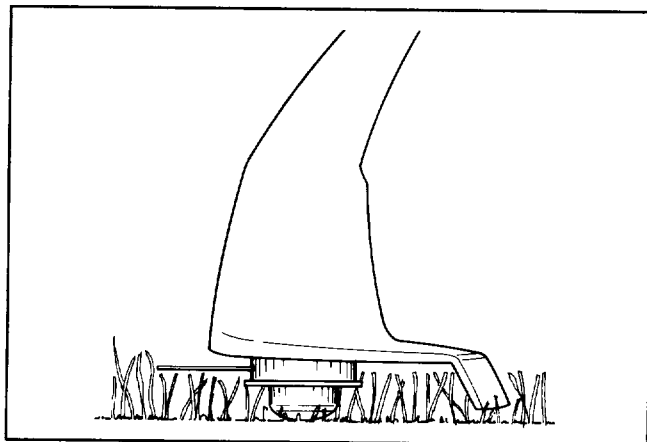

Figure 12
9. Never drag the trimmer spool cap on the ground while trimming (Fig. 12). This causes motor overload and spool cap wear.